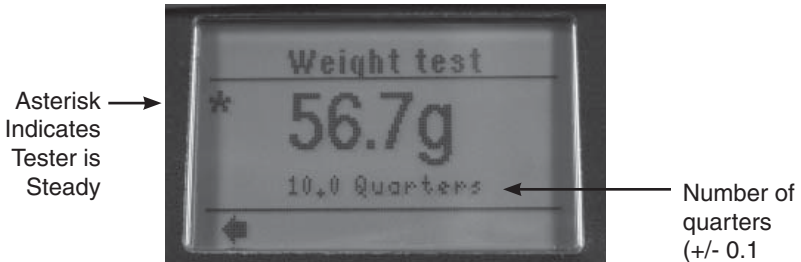

Figure 8. Weight Test Reading
4. Place test weight or 10 new quarters into the test cell when the screen indicates to “PLACE WEIGHT.” Once the weight or quarters are placed in unit, wait for reading to display. The asterisk in the upper right hand corner indicates the tester is steady and the weight is then accurate (Figure 8).